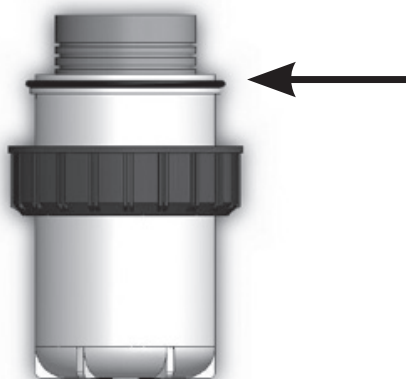

Figure 7 O-ring on Sump
4. Discard the used cartridge and clean the sump housing as required. Make sure to thoroughly rinse the sump with water to remove any cleaning agents. Before installing a new cartridge, please ensure that the o-ring seals are properly seated on the shoulders at the top of the sump (Refer to Figure 7), if there is any visible damage on the o-rings please replace them (P/N: OR40-50). Reapply a generous amount of lubricant to the O-ring when reinstalling sumps.